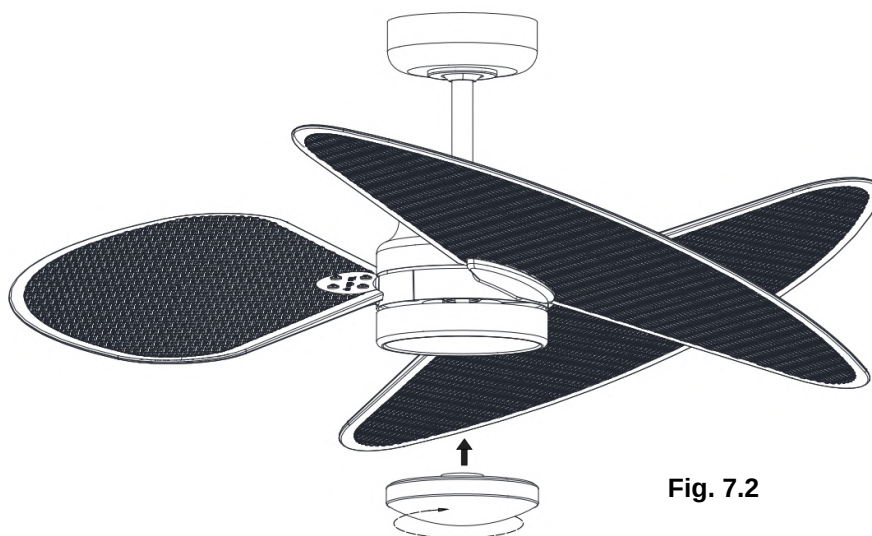

Fig. 7.2
- Install the lamp in the GX53 lamp holder. Do not exceed the maximum power rating. (Fig. 7.2)